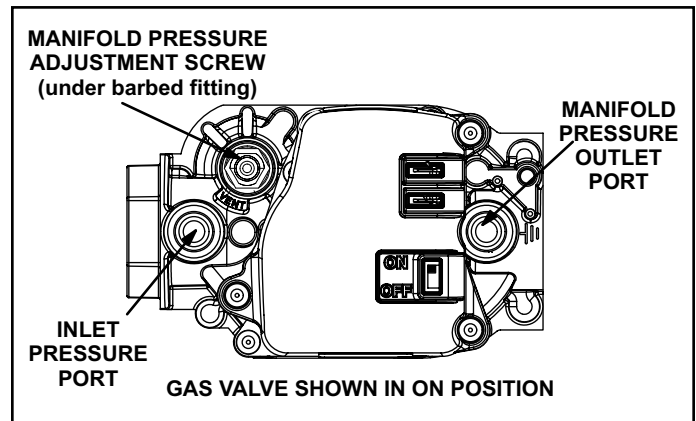

Figure 49. Gas Valve
Gas Valve Operation (Figure 49)
6. Move gas valve switch to OFF. See Figure 49.
8. Move gas valve switch to ON. See Figure 49.